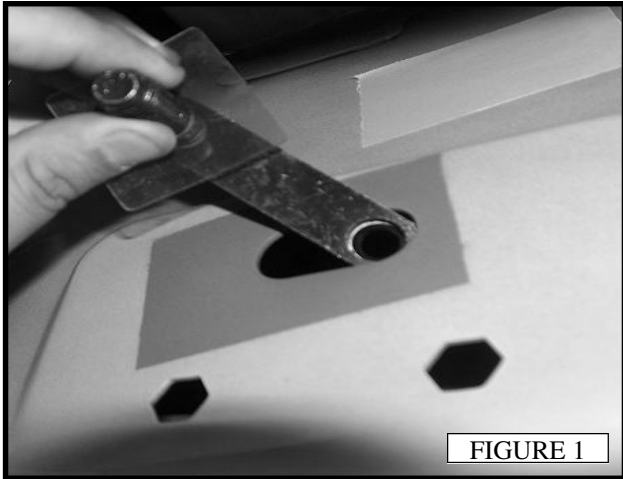

FIGURE 1
- Starting at the passenger side, remove the tape that covers the front running board holes. This is located at the inner rocker panel behind the front tire. (FIGURE 1)
- Partially thread (1) M11 plastic retainer to (1) stud + nut plate. Then place the stud plate through the slot with the two smaller holes below. Tighten the plastic retainer so the stud plate is secure.(FIGURE 1)